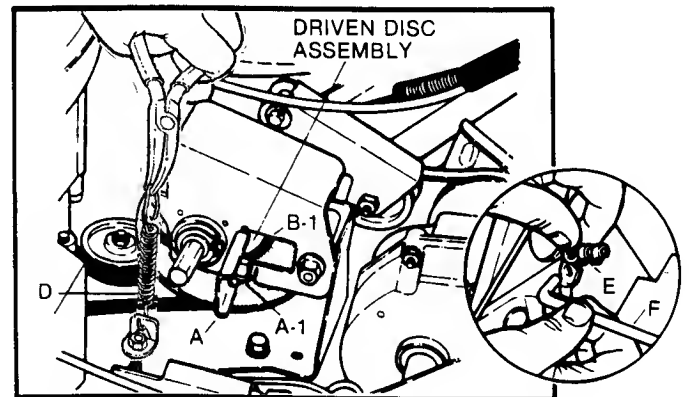

FIG. 14 -DRIVEN DISC ASSEMBLY
- ☐ Grease on drive disc (C)-causing slippage.
- ☐ Broken or disconnected DRIVE SPRING (D) (also refer to FIG. 14).
- ☐ Driven disc rubber ring (B-1) worn - not contacting drive disc (C) properly.
- ☐ Driven disc (B) out of adjustment
DRIVEN DISC REPLACEMENT: If the driven disc rubber ring (B-1) is found to be badly chunked or worn down to within $1/16"$ of the metal rim of the driven disc hub (B), it must be replaced. Remove the clip (E) at end of speed control rod, and then turn the transfer rod (F) to a upright (vertical) position and detach from the connector (A) (FIG. 14 & 15). Unhook drive spring (D) (use needle nose pliers) and slide the driven disc assembly off hex-shaft.